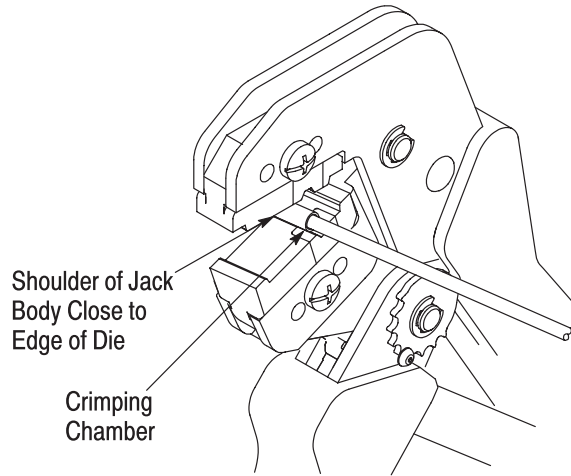

Figure 3
3. Place the ferrule in the crimping chamber of the anvil die so that the shoulder of the jack body is close to the edge of the die. Refer to Figure 3.